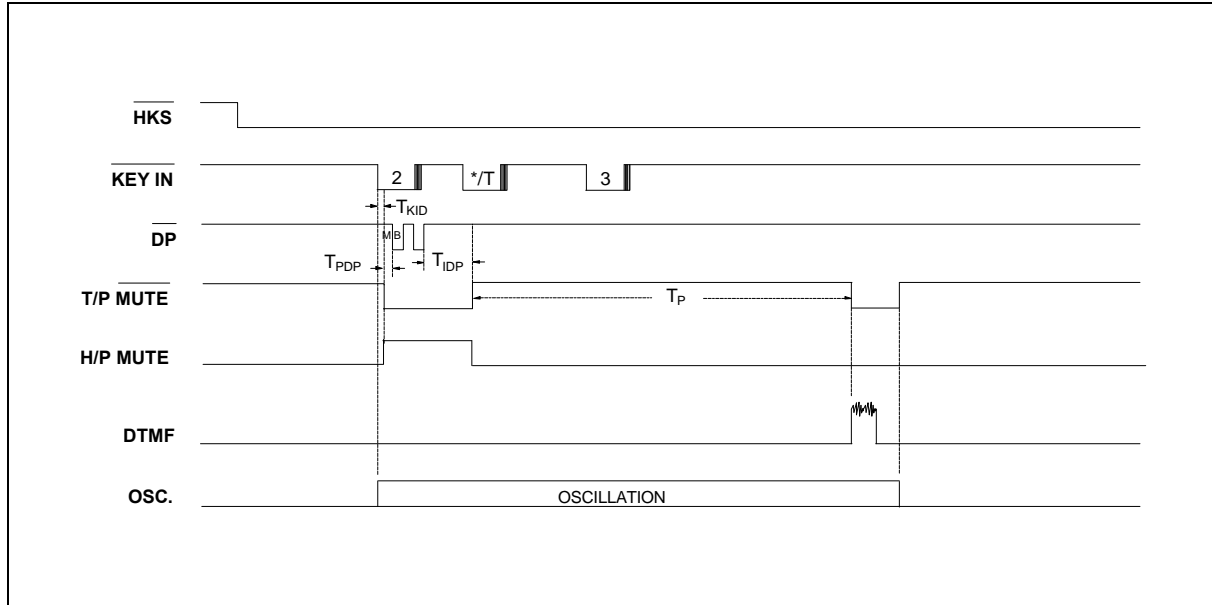

Figure 5. Pulse-to-tone Timing Diagram
4. The pulse-to-tone function timing diagram is shown in Figure 5.